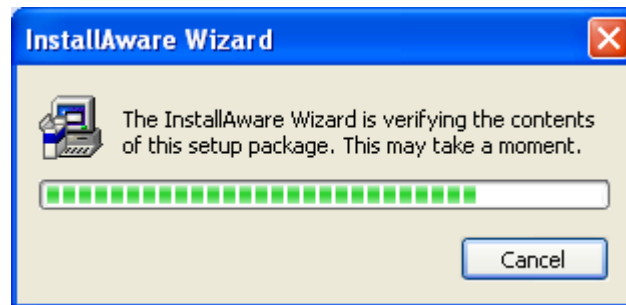

Figure 58 - InstallAware Wizard Verification Window
2. If the MatrikonOPC InstallAware screen does not automatically appear, double-click the installation .exe file. The **MatrikonOPC Server – InstallAware Wizard** verifies its contents (Figure 58).